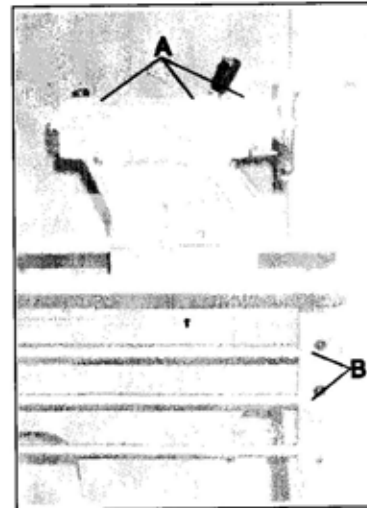

Fig. 6
7. **Carriage** – Lubricate two oil ports (F, Fig. 6) with 20W machine oil once daily.
of the lead screw and feed rod - A, Fig.6) with 20W machine oil once daily.
7. **Tailstock** – Lubricate three oil ports (B, Fig. 6) with 20W machine oil once daily.